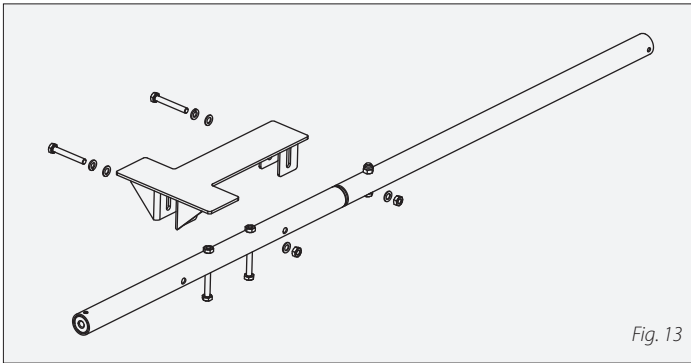

Fig. 13
Attach the motor support (8) to the central rod (5) using M6 bolt (13), M6 flat washer (19), M6 spring lock washer (21), and M6 nut (15), as shown in **figures 13** and **14**. The hardware must be fastened such that the height of the motor support can be adjusted at a later stage.